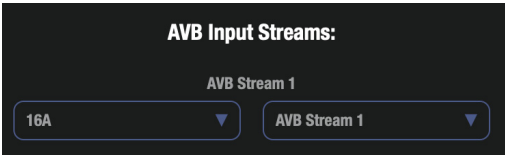

Figure 9-2: Connecting an input stream.
- 2 For 16A #2 (the unit connected to #1 with a network cable), go to the Device tab *AVB Input Streams* section and choose 16A #1 as a source device for one of the streams and then choose a *Source Stream* from it (Figure 9-2 on page 62).